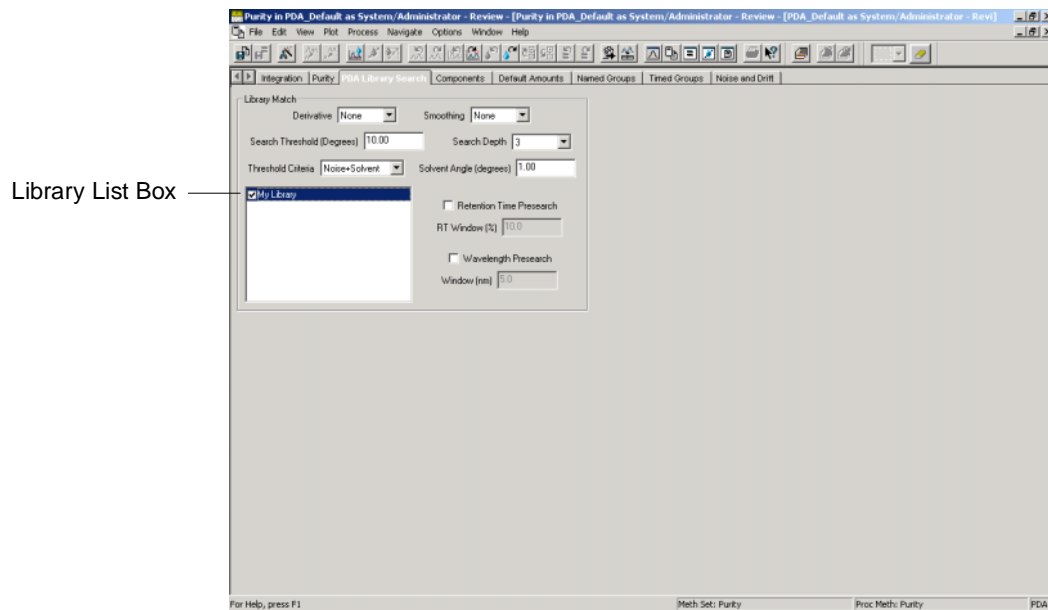

Figure 4-13 PDA Library Search Tab
5. Click the **PDA Library Search** tab. In the Library list box, select the check box of the library you want to search, for example, **My Library** (Figure 4-13).